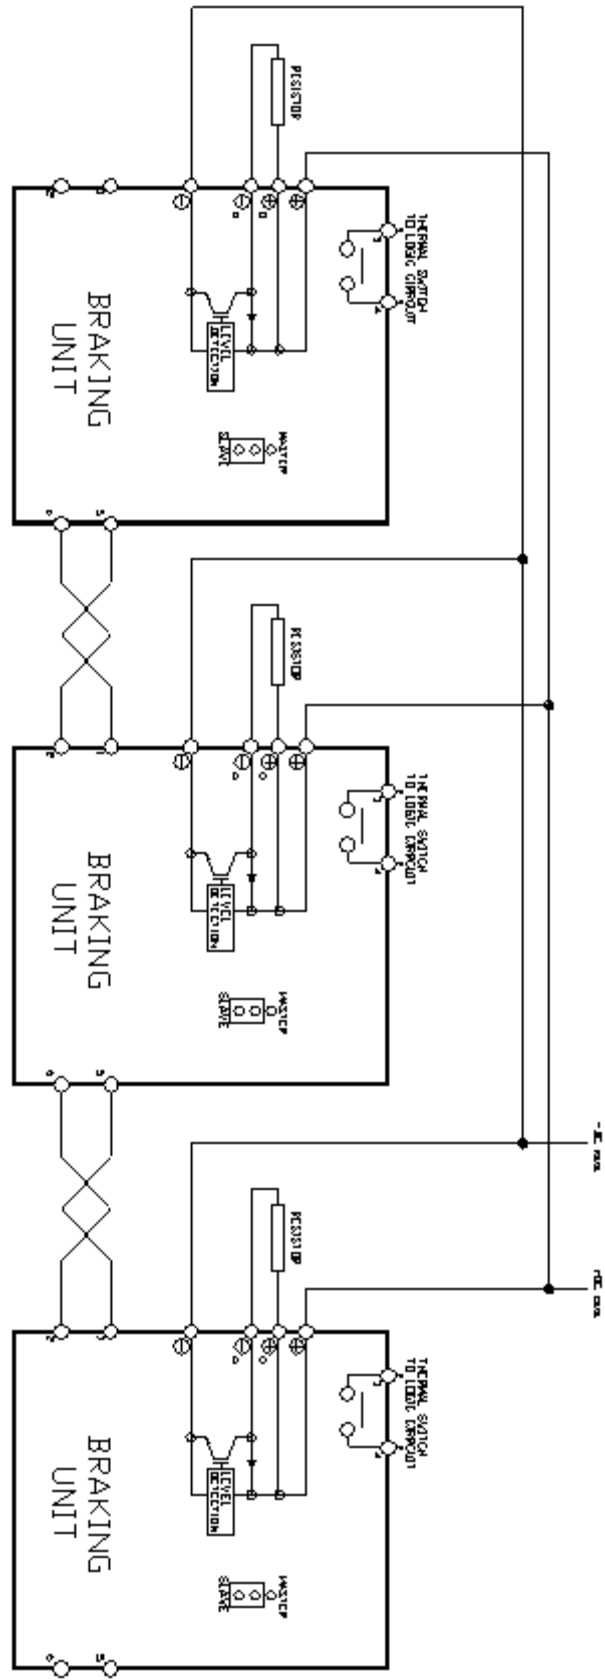

Figure 1-4: CDBR-B Parallel connection of Braking Unit
7. Terminals 1, 2, 5 and 6 are used for **MASTER/SLAVE** Operation. Use twisted-pair wires of 14 AWG or smaller for connection between 5, 6, and 1, 2 on the braking units. Parallel connection is possible up to a maximum of 10 units. Refer to Figure 1-4 (page 1-13) for parallel connection of braking units.